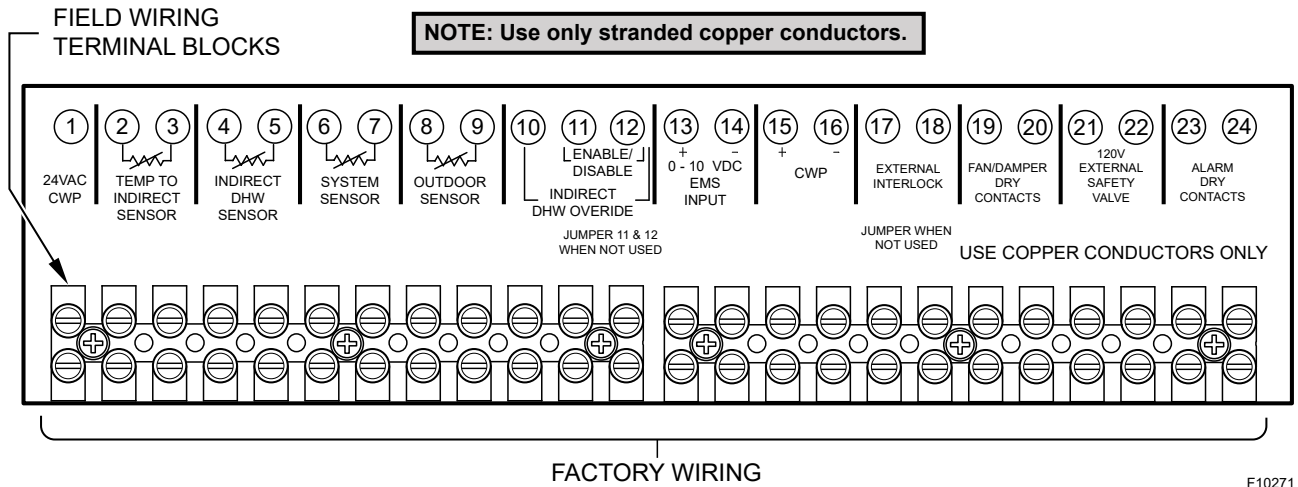

Figure 33. Low-Voltage Field Wiring
2. To enable this remote control function, set DIP switch 5 to the UP position on the PIM. DIP switch 5 Toggles between an EMS (UP) signal or a demand signal from the VERSA (DOWN). DIP switch 2 on the PIM toggles between a Direct Drive (UP) input and a Target Temperature (DOWN) setpoint.
4. Connect an Energy Management system or other auxiliary control signal to the terminals marked 0-10V (+/-) on the field wiring terminals. See **Figure 33**. Caution should be used to ensure that the +0-10V connection does not create a short to ground.
Connect the Enable/Disable (terminals 11, 12) wiring to the field wiring terminals as shown in **Figure 33** and in place of the factory installed jumper. Alternately, any dry contact closure (including a remote thermostat) across these terminals will enable the XVersL boiler to run.
1. When using a System Sensor, connect the sensor wires to the terminals marked (6, 7) SYSTEM SENSOR. See **Figure 33**.
1. If using an Outdoor Sensor, connect the sensor wires to the terminals (8 and 9) marked OUTDOOR SENSOR. See **Figure 33**.
Connect the indirect tank sensor to the terminals (4 and 5) marked INDIRECT DHW SENSOR. See **Figure 33**. Caution should be used to ensure neither of these terminals becomes connected to ground. When using an indirect DHW Sensor to control tank temperature, contact closure is required across the indirect override connections for proper operation.
2. Connect the system supply sensor to terminals 6 and 7 on the field wiring strip located on the Master boiler. See **Figure 33**.
3. Connect the Outdoor sensor (if used) to terminals 8 and 9 on the field wiring strip located on the Master boiler. See **Figure 33**.
4. Connect the Enable/Disable wiring to terminals 11 and 12 on the field wiring strip located on the Master boiler. This connection must be provided through dry contacts closure. See **Figure 33**. Applying 24VAC to these terminals will result in blowing the fuse on PIM.
The Alarm Contacts are 3A rated dry contacts on a normally-open relay that close during fault or lockout conditions, and the maximum voltage across the contacts is 30 VAC or 30 VDC. See the Field Wiring as shown in **Figure 33**.